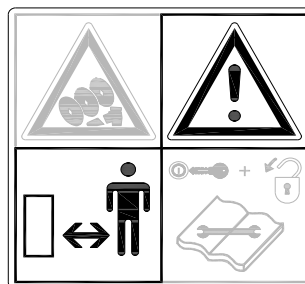

Fig. 4
**Maintain a safe distance of at least 4 metres!** (Fig. 4)